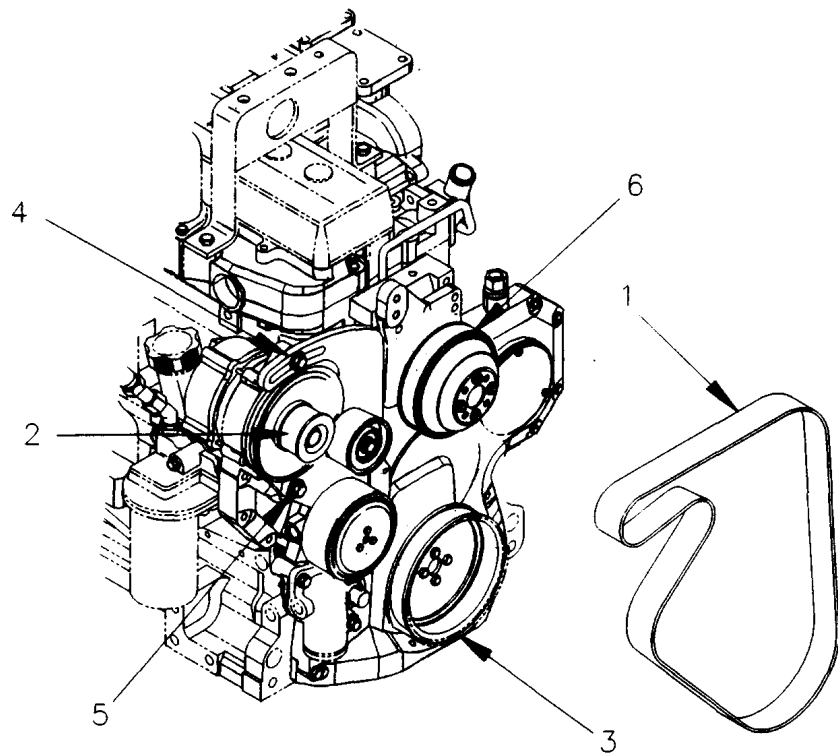

FIGURE 4-24. FAN BELT
- (5) Remove fan guards, paragraph 4.10.3.
- (6) Inspect fan belt (1, Figure 4-24) for fraying, cracks, oil soaking or other damage.
- (7) Replace fan belt that shows any damage or cannot be adjusted for proper tension.
- (8) Install fan guards, paragraph 4.3.10.
- (9) Close engine compartment access doors.
- (10) Connect negative battery cable to battery and close BATTERY ACCESS doors.
- (4) Remove fan guards, paragraph 4.10.3.
- (5) Check fan belt (1, Figure 4-24) for 1/2 inch (1.27 cm) deflection between alternator pulley (2) and fan pulley (6).
- (6) If fan belt needs adjustment, loosen alternator mounting bolt (4) and nut (5).
- (5) Loosen alternator mounting bolt (4, Figure 4-24) and nut (5).
- (6) Pivot alternator to relieve tension on fan belt (1), and remove belt from alternator pulley (2), crankshaft pulley (3), and fan pulley (6).
- (8) Slip new fan belt (1, Figure 4-24) over fan (40, Figure 4-22).
- (9) Install new fan belt (1, Figure 4-24) onto alternator pulley (2), crankshaft pulley (3), and fan pulley (6).
- (10) Adjust tension on fan belt (1), step b above.
- (11) Install fan guards, paragraph 4.10.3.
- (12) Close engine compartment access doors.
- (13) Connect negative battery cable to battery, and close BATTERY ACCESS door.